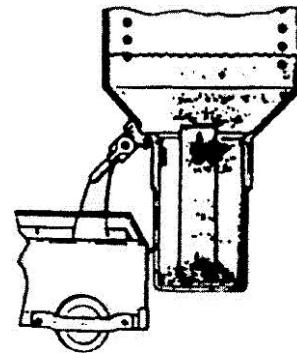

FIGURE 22
3. **DANGER:** Drain hot cooking oil only into metal containers. Place container or shortening tender under drain valve and open valve by flipping handle down. Allow cooking oil to cool before further handling (FIG. 22).